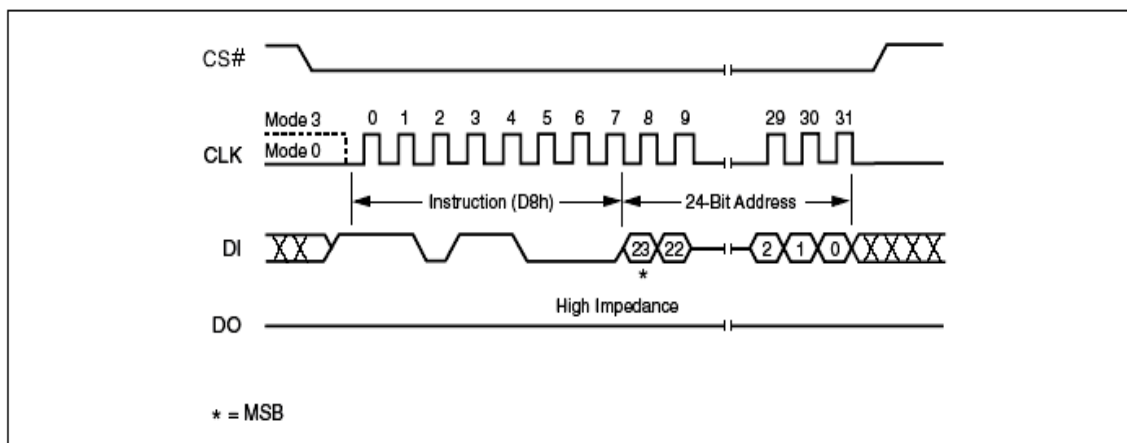

Figure 26. Block Erase Instruction Sequence Diagram
The instruction sequence is shown in Figure 26. Chip Select (CS#) must be driven High after the eighth bit of the last address byte has been latched in, otherwise the Block Erase (BE) instruction is not executed. As soon as Chip Select (CS#) is driven High, the self-timed Block Erase cycle (whose duration is t_{BE}) is initiated. While the Block Erase cycle is in progress, the Status Register may be read to check the value of the Write In Progress (WIP) bit. The Write In Progress (WIP) bit is 1 during the self-timed Block Erase cycle, and is 0 when it is completed. At some unspecified time before the cycle is completed, the Write Enable Latch (WEL) bit is reset.